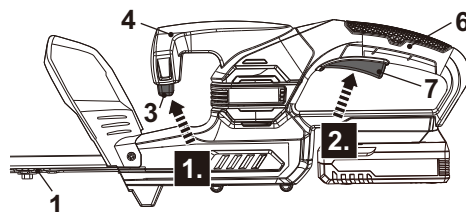

Fig. 6
1. Ensure the cutting device (blade) (1) does not touch any objects. Remove the blade cover (11) from the cutting device (blade) (1) before switching the product on.
2. Hold the product with one hand on the front handle (4) and the other hand on the rear handle (6).
3. Squeeze the safety switch (3) and hold it in position (Fig. 6, step 1).
4. Squeeze the on/off switch (7) to switch the product on (Fig. 6, step 2).
5. Release either the on/off switch (7) or the safety switch (3) to switch the product off.